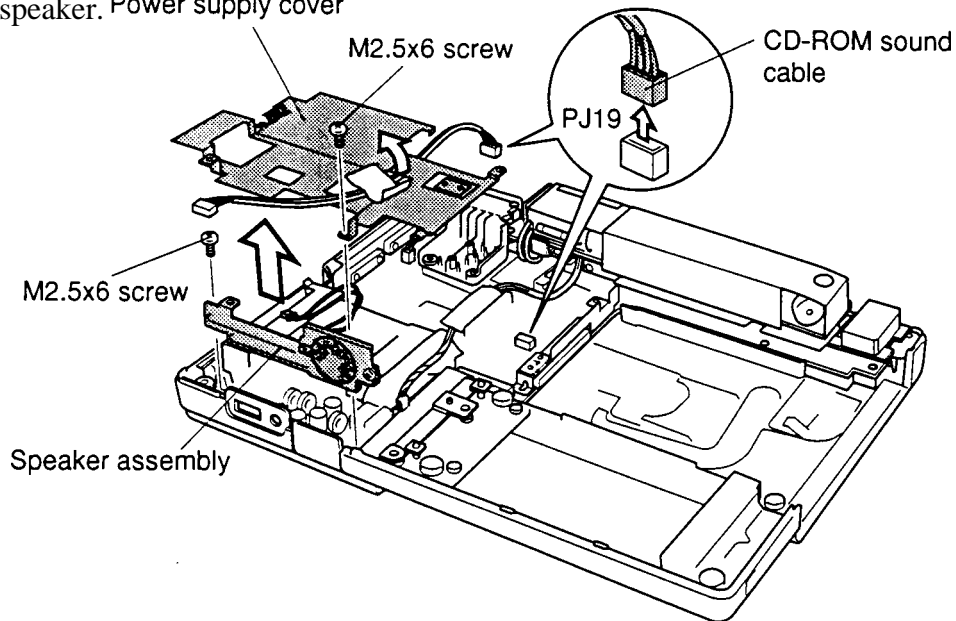

Figure 4-34 Removing the speaker assembly
To remove the speaker, follow the steps below and refer to Figures 4-34 and 4-35.
2. Seat the **speaker assembly** and secure it to the computer with **one M2.5x6 screw** (Figure 4-34).